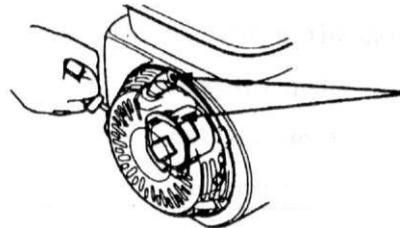

Fig. 33
3. Pull the starting rope slowly until feel a slight anti-action, and then keep pulling so as to align the arrow of the starting sleeve with the hole of the starter. At this time, both the inlet and outlet valves are closed so to help prevent the engine inside from rusting (Fig. 33).